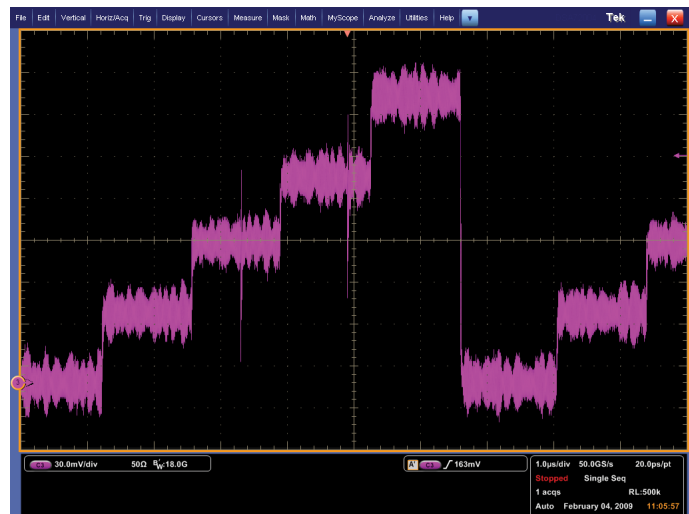

Figure 24. Peak detect mode enables the oscilloscope to capture extremely brief transient anomalies.
- **Peak Detect Mode:** The oscilloscope saves the minimum and maximum value sample points taken during two waveform intervals and uses these samples as the two corresponding waveform points. Digital oscilloscopes with peak detect mode run the ADC at a fast sample rate, even at very slow time base settings (slow time base settings translate into long waveform intervals) and are able to capture fast signal changes that would occur between the waveform points if in sample mode, as shown in Figure 23. Peak detect mode is particularly useful for seeing narrow pulses spaced far apart in time, as demonstrated in Figure 24.